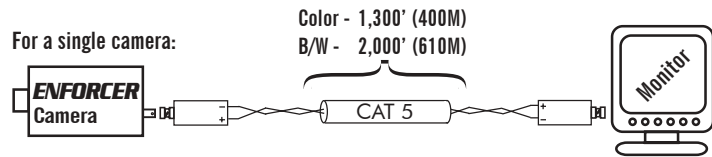

Figure 2:
- Connect the UTP cable to the two video baluns. NOTE: The video baluns are polarity-sensitive. See fig. 2 and fig. 3.
- Strip approximately 1/4" (6mm) of insulation from two of the wires at one end of the UTP cable. Do the same to the two same-colored wires at the other end of the cable. See fig. 2.